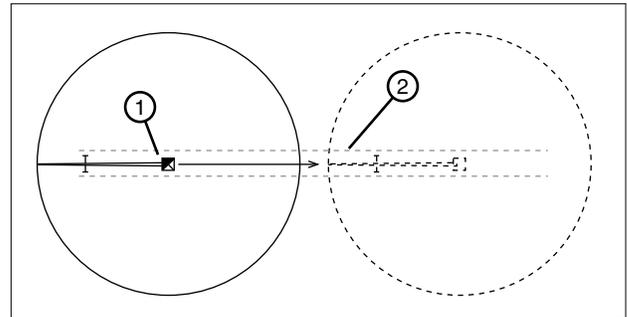

Figure 31-1 1. Machine
1. Position the machine in the tow lane. See figure 31-1.